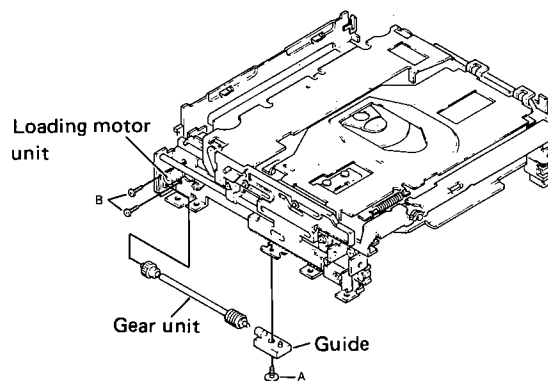

Fig. 20
• Loading Motor Unit Removal (Fig. 20)